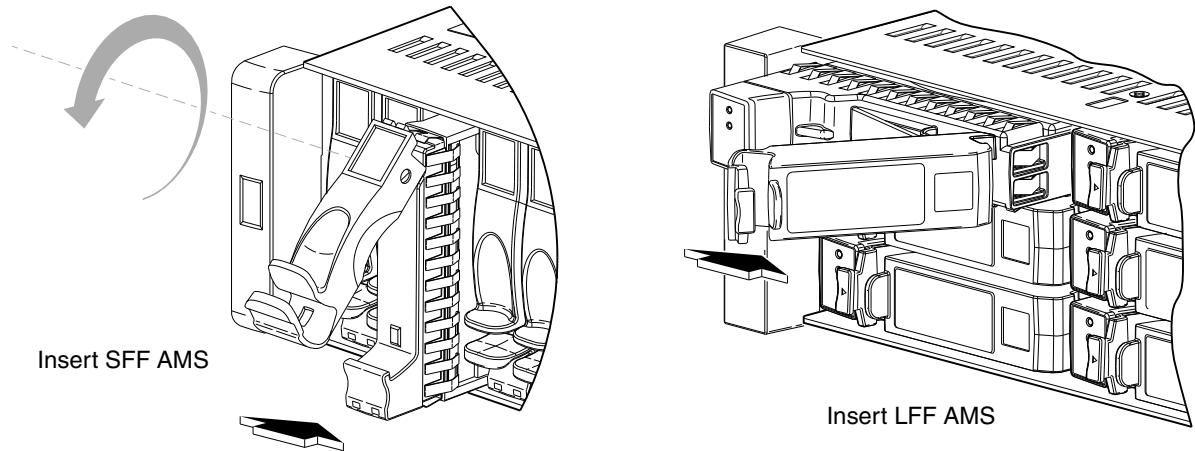

Figure 13 Installing a drive module
- a. SFF drive — with the LEDs oriented to the bottom, slide the drive module into the drive slot as far as it will go (see left illustration in Figure 13 on page 22).
- b. LFF drive — with the LEDs oriented to the left, slide the drive module into the drive slot as far as it will go (see right illustration in Figure 13 on page 22).
Check that the Power/Activity/Fault LED — located on the drive — is illuminated green. On SFF drives, this LED is located at bottom/left. On LFF drives, the LED is located at top/left. Both LEDs are shown in Figure 13 above.